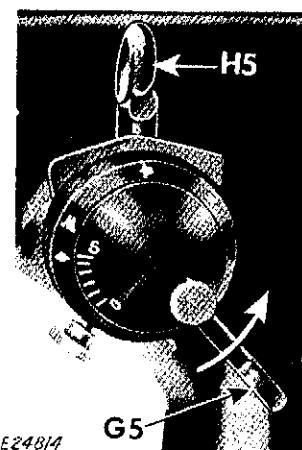

Fig. 119. Central Needle Position (Zigzag)
**SETTING:** Bight lever **G5** at #5 position and position lever **H5** at Central point, as shown in Fig. 119.